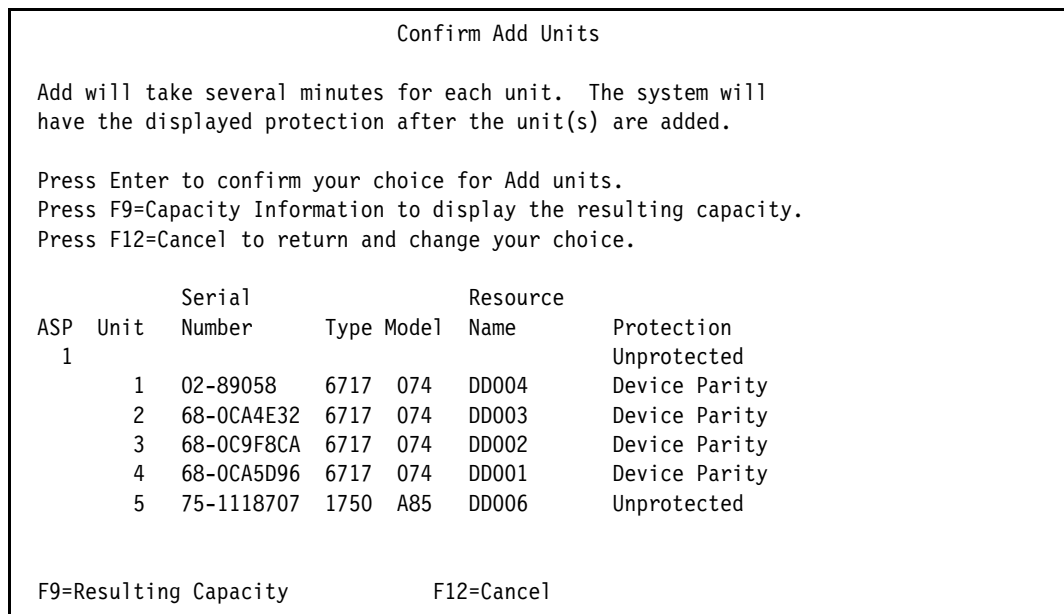

Figure B-5 Confirm Add Units
- The Confirm Add Units panel will appear for review as shown in Figure B-5. If everything is correct, press Enter to continue.